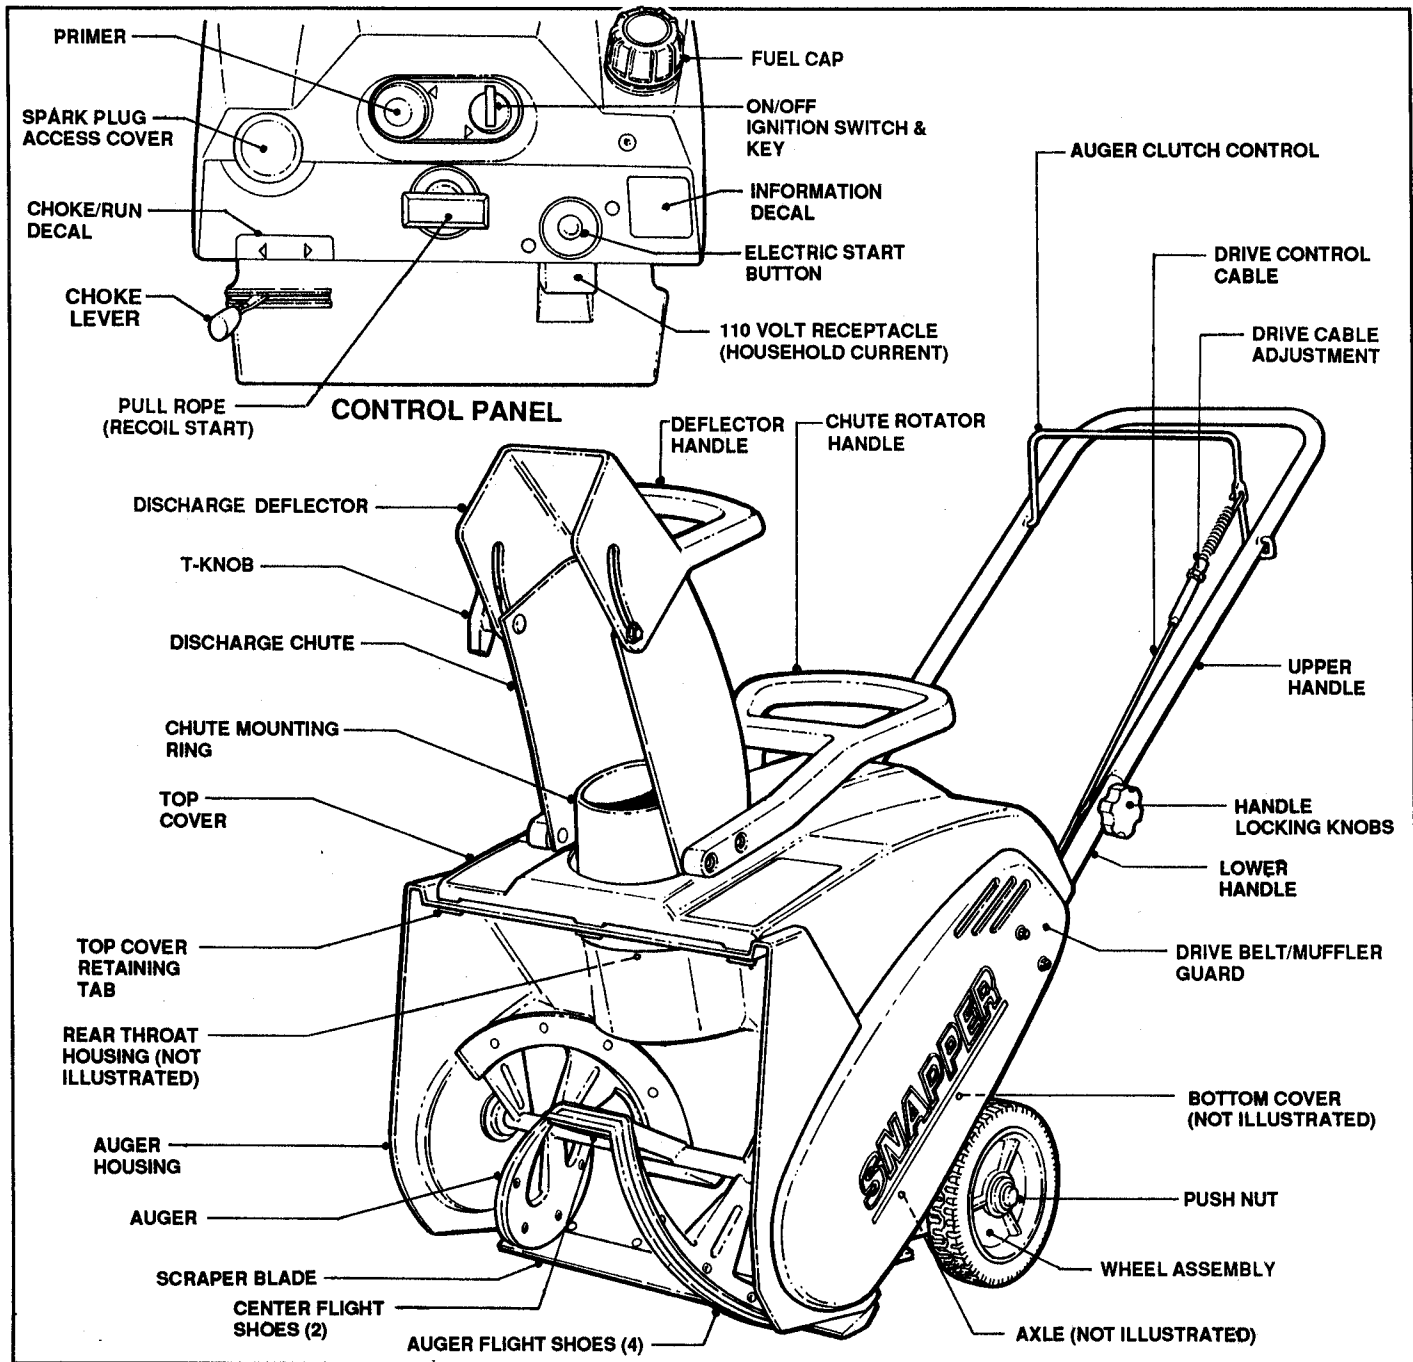

FIGURE 1.1
The nomenclature drawing above (Figure 1.1) shows the essential parts of the **SNAPPER Models LE317 & LE319 SNOW THROWERS**. Make sure that each person authorized to operate this Snow Thrower reads this manual prior to operation and pays particular attention to the Safety Precautions on the inside front cover and to the Warning Decals on the machine. Also, make sure all operators are thoroughly familiar with all controls and how to use them before operating the blower. Make certain that operators know beforehand how to stop the Auger and Engine in preparation for possible emergencies.
2.5 OPERATIONAL CONTROLS - IDENTIFICATION & LOCATION (Refer to Figure 1.1)